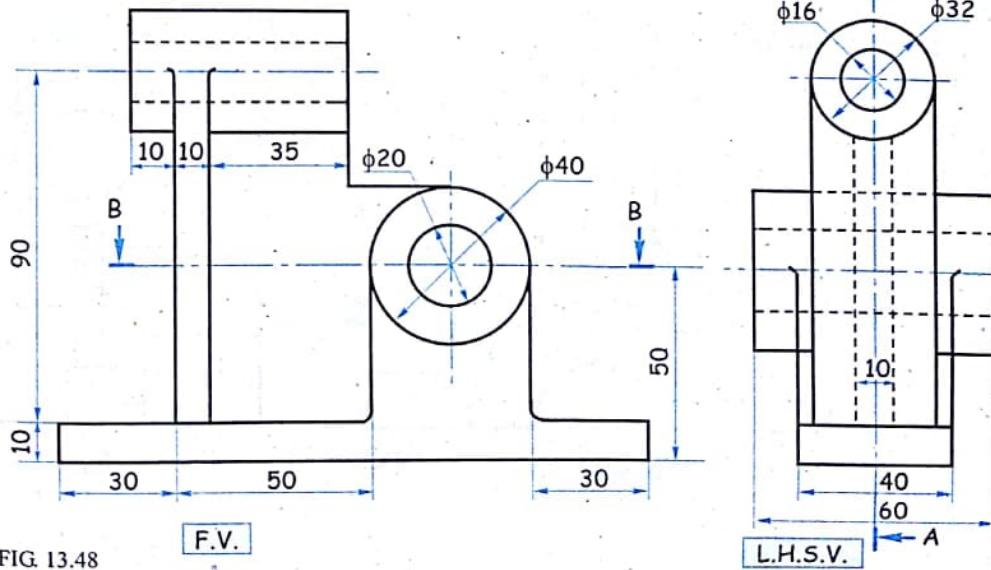

FIG. 13.48 F.V.
8. Draw : (i) Sectional front view (Section A-A). (ii) Top view (Section B-B). (iii) Right hand side view. Refer figure 13.48.